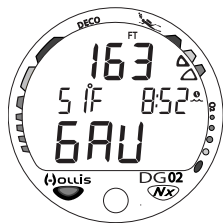

Fig. 56 - DGM Alternate
- Press/release the button (< 2 sec) to view an Alternate Display showing Temperature and Time (Fig. 56).